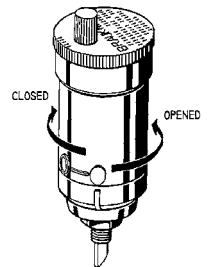

Figure 3
1. Screw assembly ARVTA-1X into the 1/4" threaded hole on top of air release tank in the tank head. Attach the 3/8" polyethylene tubing to the top of the air release valve. To be able to do so remove the red cap and slip tubing over the threaded boss of the air release valve. The ARTVA-1X assembly can be found in its own box in the aeration tank shipping box. This tubing needs to be run to a waste drain to accommodate water that may be expelled during the venting cycles. It is recommended to keep the tubing as short as possible to ensure proper performance in venting air and water correctly. Ensure the air release valve is open by examining the side of the air release valve (see Figure 3). It should always remain open.